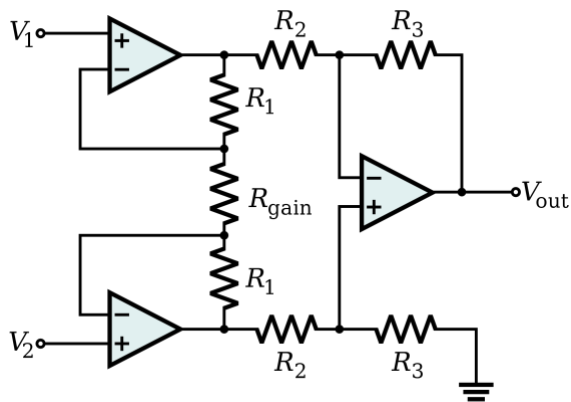

Figure 3: An inside look at an instrumentation amplifier.
The ECG signal is a small voltage difference between two electrodes on the order of a few millivolts. An instrumentation amplifier (IA) can be used to take the difference between the voltages of two electrodes and gain up the resulting difference so it can be seen on an oscilloscope and sampled by an Analog-to-Digital converter (ADC). The INA114 or AD620 (devices are pin for pin equivalent) is made up of 3 op-amps: two op-amps at the inputs that buffer the input signals and a third op-amp that acts as a differential amplifier (see Figure 3). Because the IA has high input impedance like an op-amp, little current flows